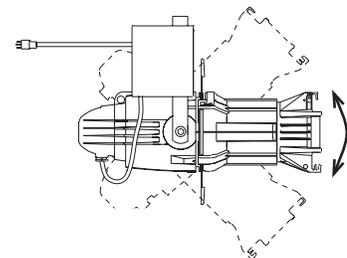

Figure 9
2. Tilt the fixture to the desired position (**Figure 9**).